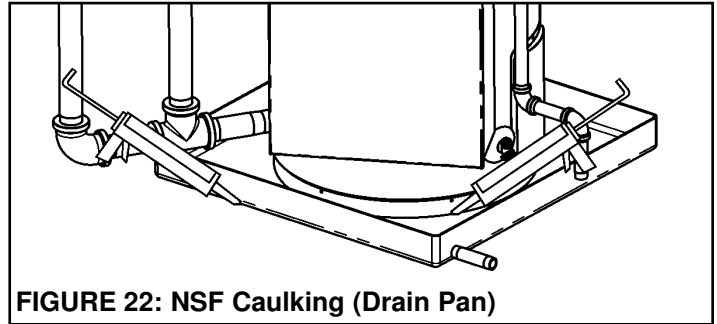

FIGURE 22: NSF Caulking (Drain Pan)
4. Seal the heater base to the drain pan and the drain pan to the floor with the sealant listed above. Be certain that there are no gaps or openings in the seal (See Figure 22).